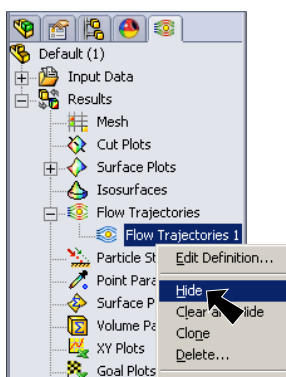

Fig. 29
Step 4. After viewing the flow trajectories, **right click Flow Trajectories 1** in Flow Simulation tree and click **Hide**, **Fig. 29**.